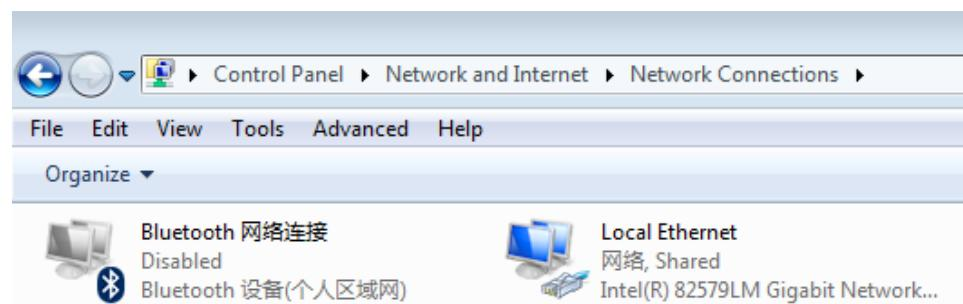

Figure 4-1 Network connection window
Step 1 Click Start>Control Panel>Network and Internet>Network Sharing Center> Local Area Connection, as shown in Figure 4-1.